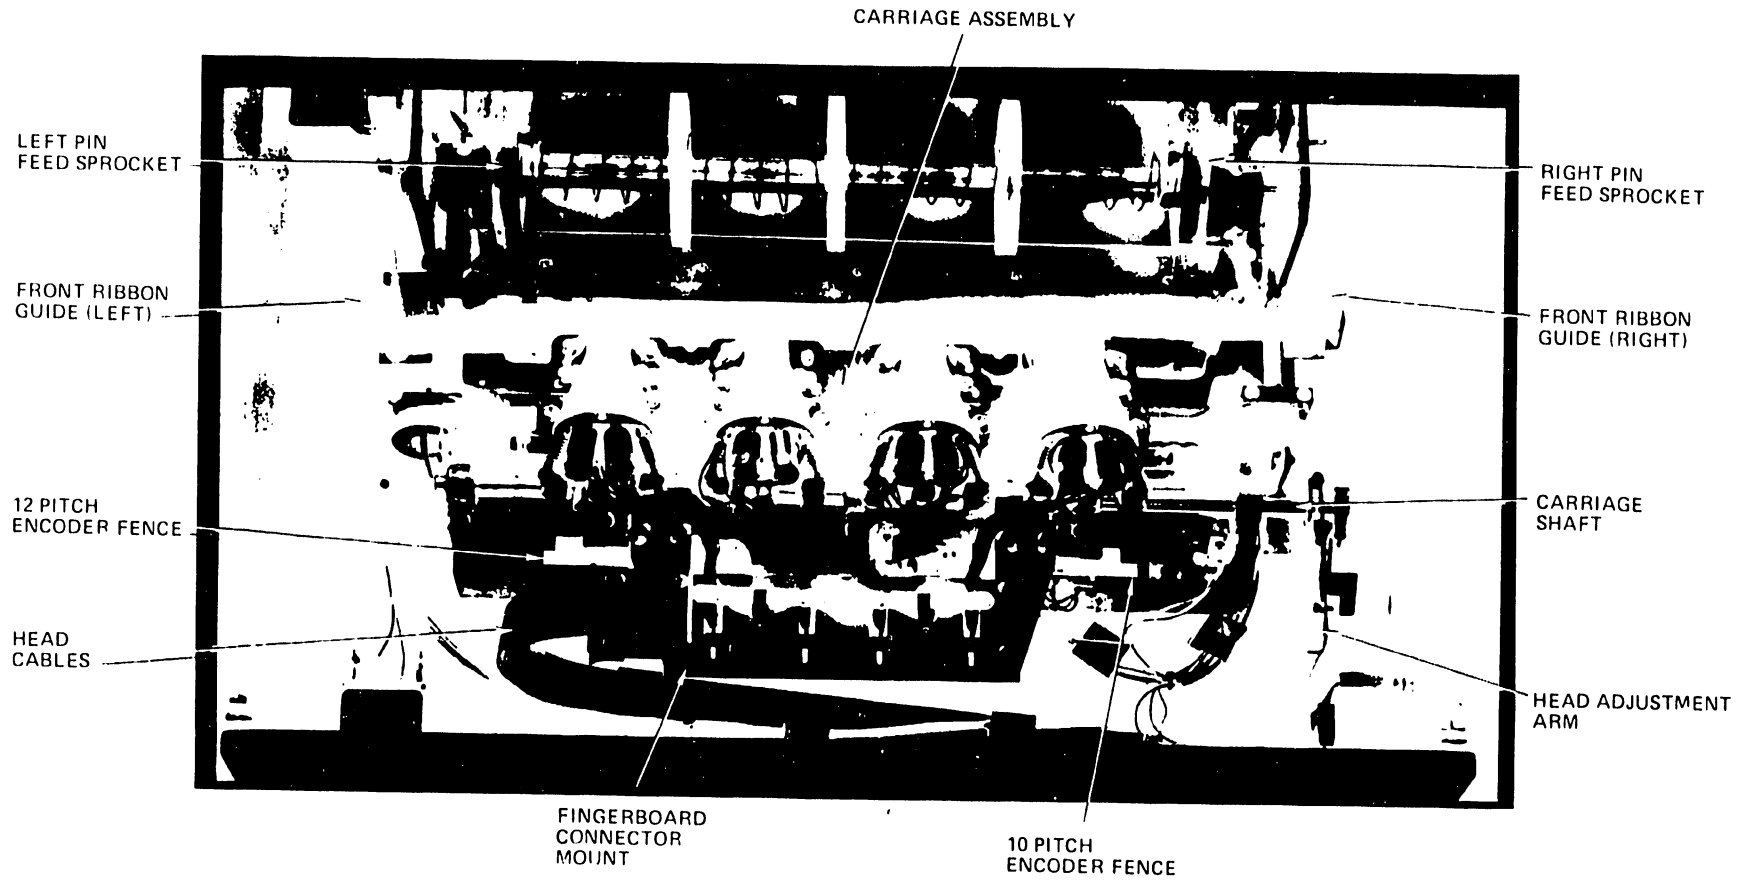

Figure 2-5. Printer Assembly/Print Head Shield Removed
2. Open the printer top cover, remove the print head shield, and inspect the carriage assembly. Manually slide the carriage back and forth along the carriage shaft and check that it moves freely, without binding. See that the print head fingerboards are seated properly in their connectors. See Figure 2-5.